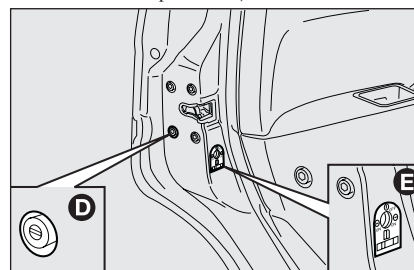

fig. 12
- ☐ operation of the emergency front and rear door lock release system **D**-fig. 12 from the outside for use the electric system is not working (e.g. flat battery);
- ☐ operation of the child lock **E**-fig. 12 on rear doors.